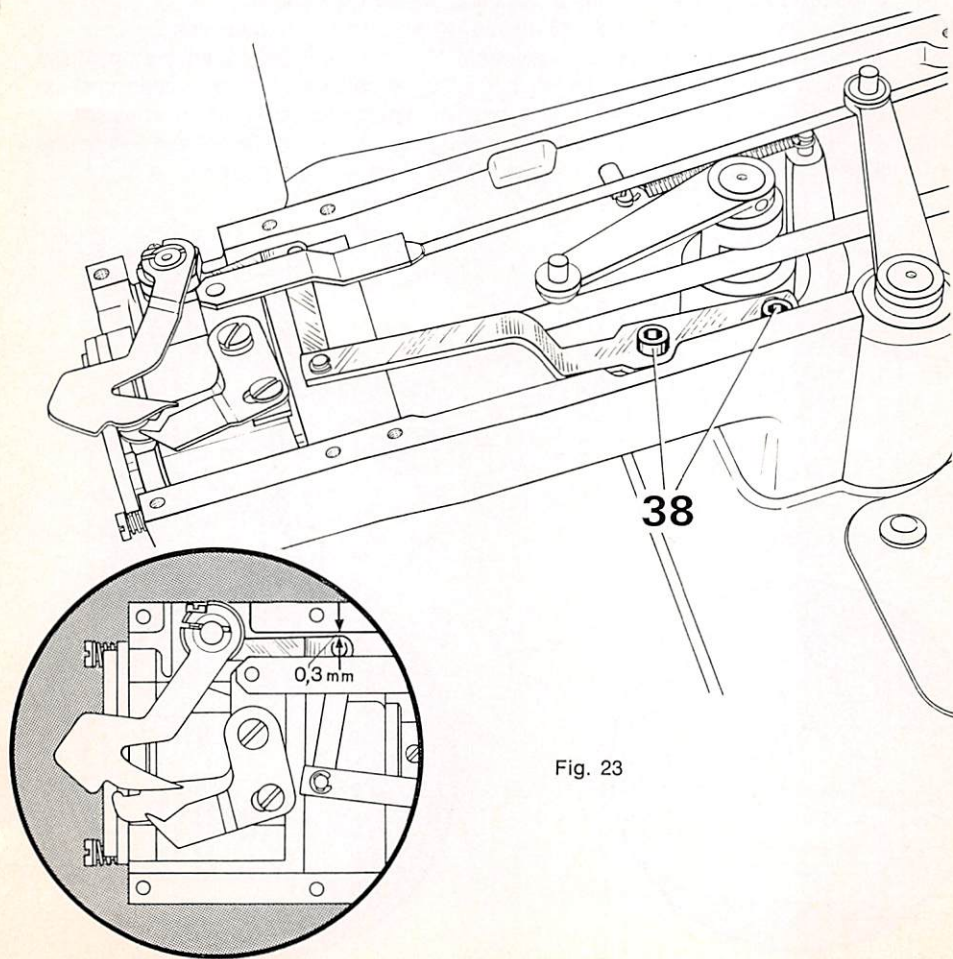

Fig. 23
**23. Adjusting the thread catcher crank (Fig. 23)**
- 23.2. Set a clearance of 0.3 mm (0.01") between the cylinder bed wall and the thread catcher crank (see encircled view of Fig. 23).